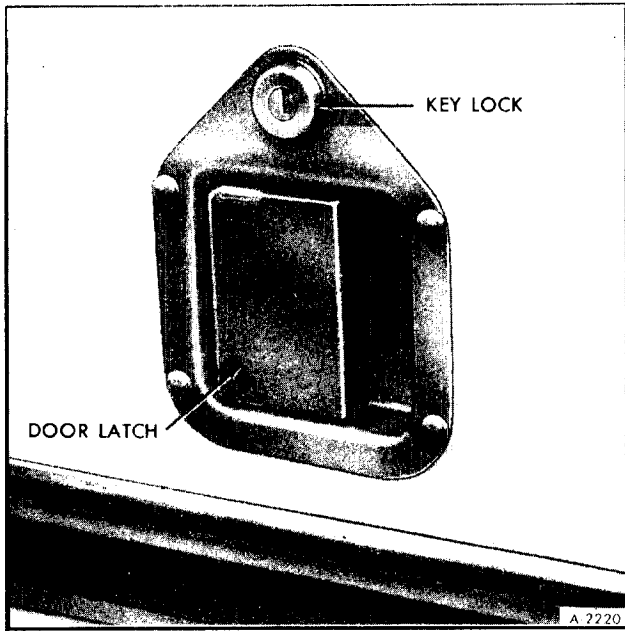

Figure 20--Type III Door Lock
**REMOVAL - TYPE III LOCK (FIGURE 20)**